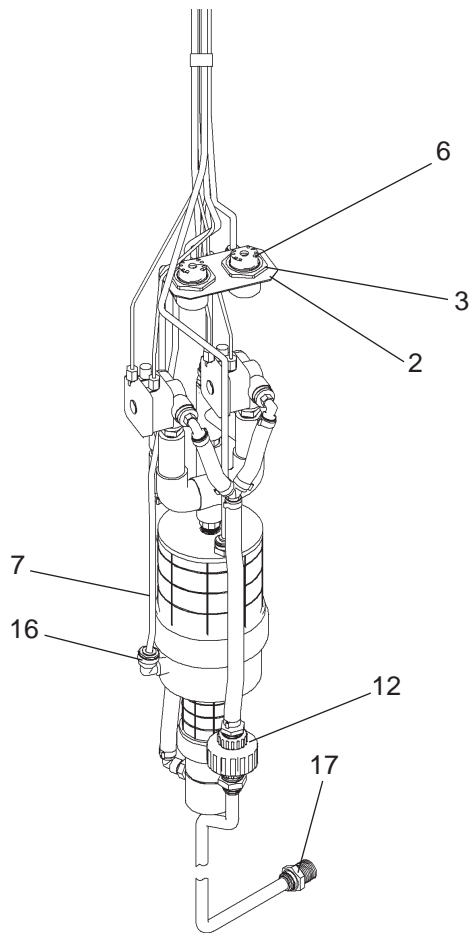

FIG. 4
- Remove the cleanout plug from the PVC column. Remove the valve assembly from the PVC column by carefully pulling up on the strap and connecting tubing at the same time. Pressure test the valve assembly for leaks. Check stream height from the bubbler. Stream height is factory set at 35 PSI. If supply pressure varies greatly from this, adjust the screw on the regulator (Item 13, Page 10, Fig. 4). Clockwise adjustment will raise stream and counter-clockwise adjustment will lower stream. For best adjustment stream height should be approx. 1-1/2" (38mm) above the bubbler guard. Replace the valve into the PVC column without any kinks and double check that the valve is positioned fully at the bottom of the PVC column. Cap the PVC column.